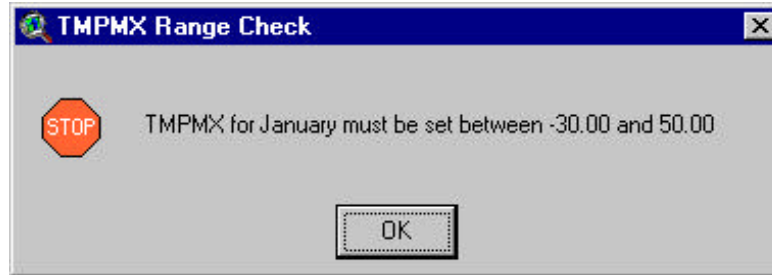

Figure 12.13
- a. Edit data: Activate a parameter text box by clicking on it. Type the desired value. You can move to the next parameter by pressing the **TAB** key. If the value of the parameter is out of range, a message box like the one in Figure 12.13 will be displayed.